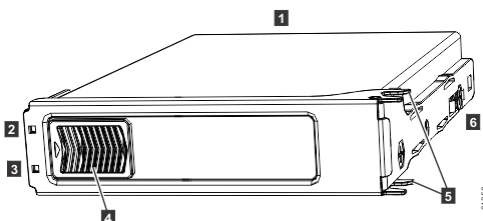

Figure 81. Drive assembly
The 5U expansion enclosure supports 92 drives. Figure 81 on page 67 shows an example of a drive assembly.
**Note:** When a drive is faulty, the amber fault indicator is lit (**3** in Figure 81 on page 67). Do not replace a drive unless the drive fault indicator is on or you are instructed to do so by a fix procedure.